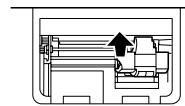

Fig. 2
- Hold the top of the ink roller and remove the roller by pulling it toward you and then upward. (Fig. 2)